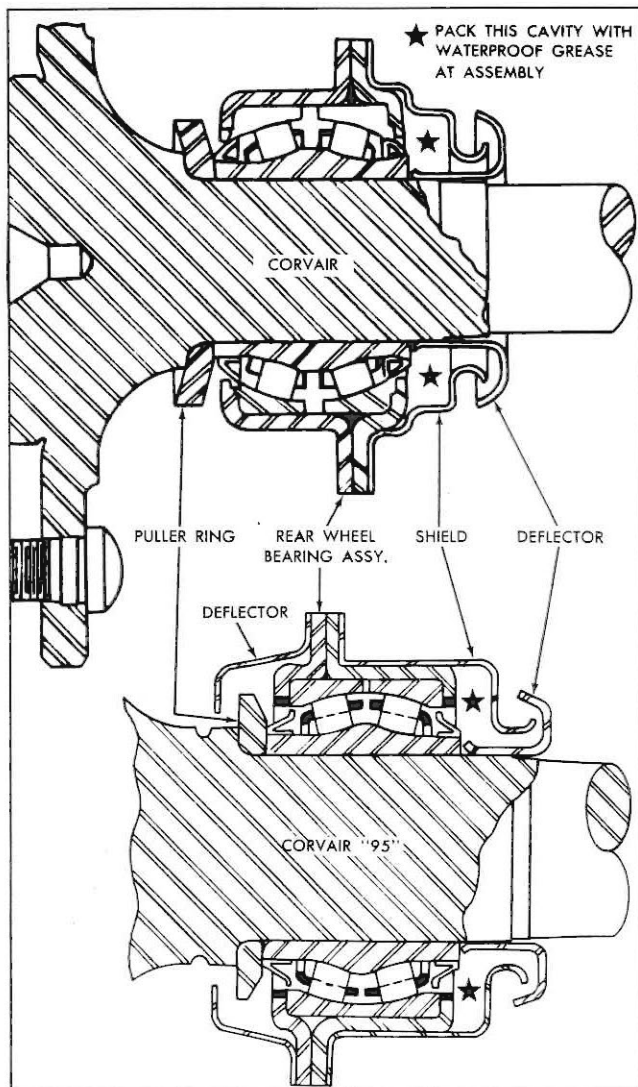

Fig. 3—1961 Late Production Wheel Bearings
3. Before installing bearing shield on bearing assembly, pack cavity between bearing race and shield (Fig. 3) with high melting point wheel bearing grease. Press shield on bearing using suitable length of 2½ I.D. pipe or steel tubing. Bend over tangs on shield.
4. Before installing bearing shield on bearing assembly, pack cavity between bearing race and shield (Fig. 3) with high melting point wheel bearing grease. Press a shield on bear-